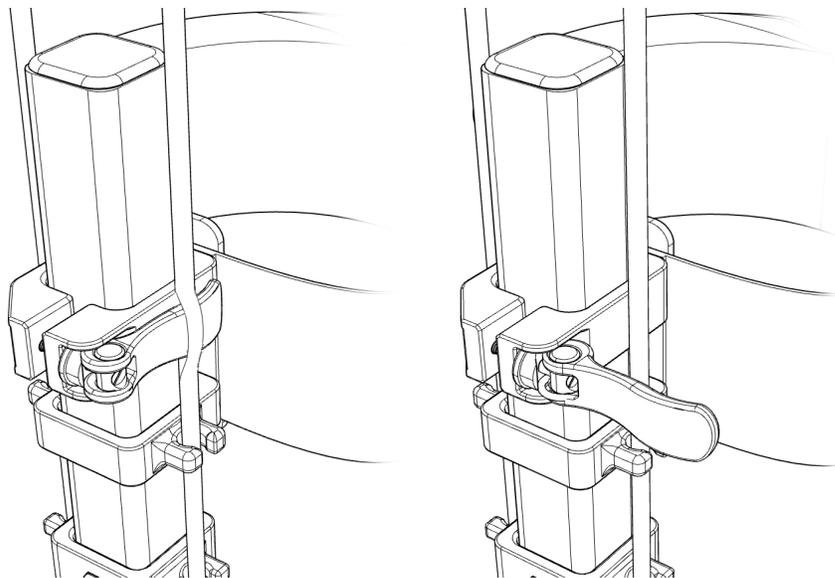

Figure 8. Quick release lever in closed (left) and open (right) positions
- Once the proper size calf cuff has been selected, open the quick-release lever on the calf cuff (Figure 8) and slide the cuff onto the carbon-fiber upright. Be sure that the cuff is facing the same direction as the footplate (i.e., back of the cuff is aligned with the heel of the footplate).